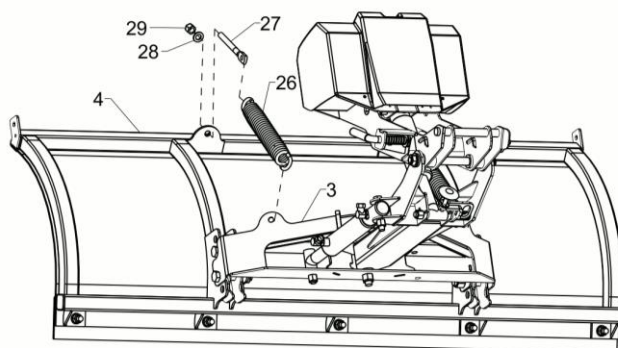

Figure 4. Trip Spring Assembly G10751
5. Insert Trip Springs (26) through the holes provided on Push Frame Attachment Bar (3) as shown in Figure 4.
6. Attach 1/2"-13 x 5-1/4" Spade Bolt (27) around the loose end of Trip Springs (26).
7. Insert the threaded end of Spade Bolt (27) through the hole in the spring mount brackets on the back of Blade Assembly (4). Secure each Spade Bolt (27) with one 1/2" Flat Washer (28) and one 1/2"-13 Self-Locking Nut (29).
8. Tighten 1/2"-13 Self-Locking Nuts (29) until the coils on Trip Springs (26) are approximately 1/32" apart.